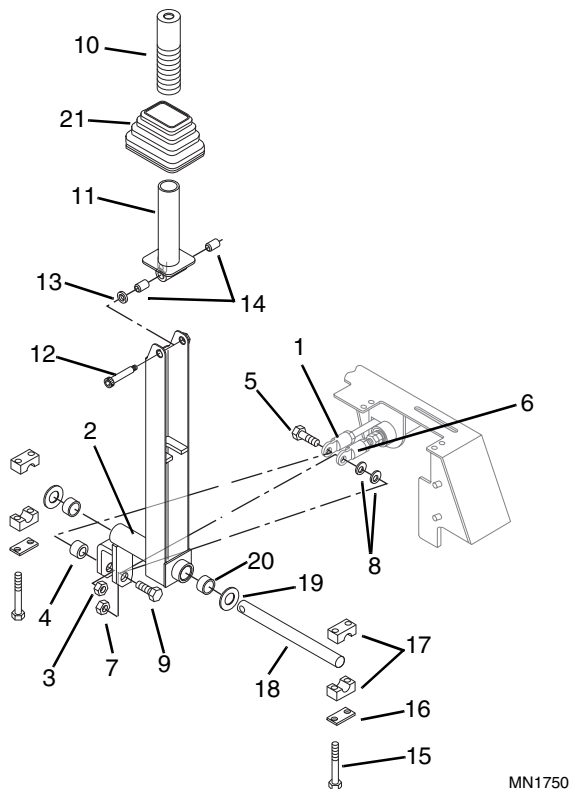

Figure 7-64 Wrist Control Lever Assembly
1. Install the lever boot (Fig. 7-64, 21) and plastic bushings (20) on the pivot lever (2). Install the pivot pin (18) into the lever, and add a shim (19) to each side.
2. Install the pivot lever (Fig. 7-64, 2) to the crossmember. Secure the pivot pin (18) by installing the half clamps (17), clamp cover (16) and two capscrews (15) to each side of the pin.
3. Install new bushings (Fig. 7-64, 14) if required into the hand control lever (11). Install the hand control lever to the 2-way pivot (2) using the socket head shoulder screw (12) and flat washer (13). Tighten securely.
4. Install the handgrip (Fig. 7-64, 10) onto the hand control lever (11).
5. Connect the left side link rod ball joint (Fig. 7-64, 1) to the 2-way pivot lever (2) by installing the capscrew (5), spacer (4) and hex locknut (3).
6. Connect the spring assembly link rod ball joint (Fig. 7-64, 6) to the 2-way pivot (2) by installing capscrew (9), two flat washers (8) and hex locknut (7).